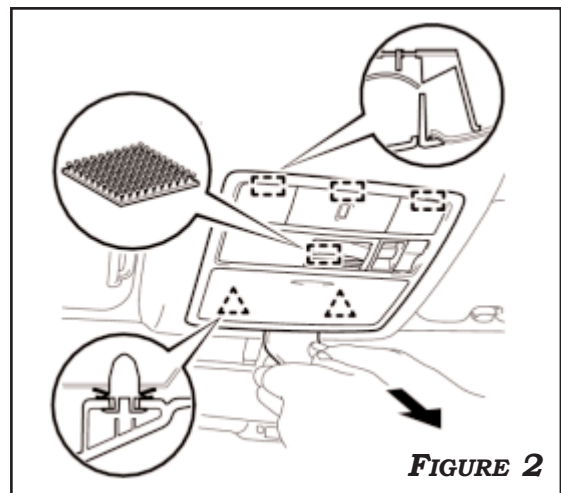

FIGURE 2
2. USE A TRIM TOOL TO DISENGAGE THE 2 CLIPS AND DISCONNECT THE CONNECTOR TO REMOVE THE MAP LIGHT ASSEMBLY. **FIGURE 2**